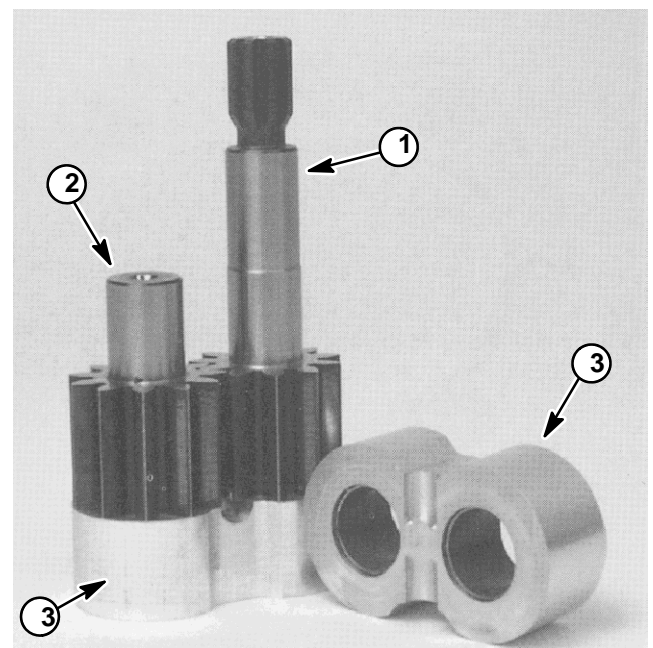

Figure 87
3. Inspect drive gear, idler gear and bearing blocks (Fig. 87) for the following: